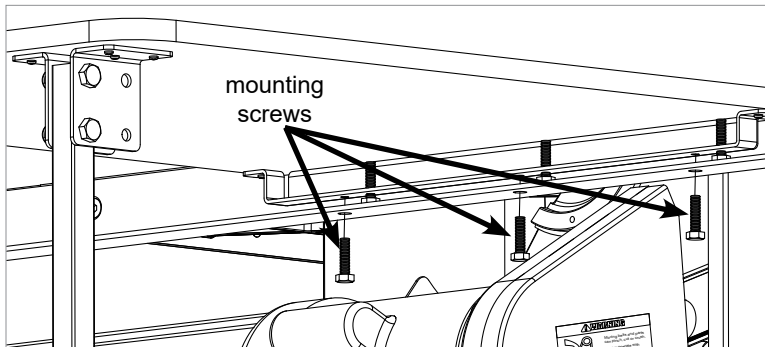

Fig. 5
5. Align the three holes in the rear rail with the three holes in the out-feed table mounting bracket and thread the three mounting screws through the rear rail and into the mounting bracket (see Fig. 5). Thread the screws into the mounting bracket enough so they engage the bracket, but do not tighten them. They need to remain loose so you can align the out-feed table to the saw.